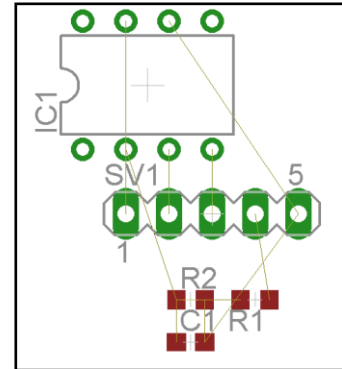

Figure 4: Component positioning.
6. With your layout completed (Figure 4), it is time to add the traces. Select the 'Route' tool – (🔧).